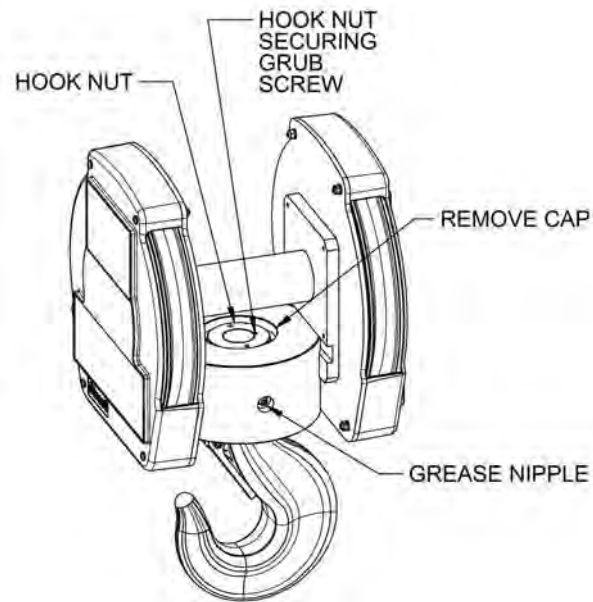

Figure 80 – 4 Fall Bottom Block, Hook Nut, Grubscrew, Grease nipple
- Check the security of the hook nut and it's securing grub screw, for 4 Fall remove cap to inspect see Figure 80. For 2, 6 and 8 Fall rotate the hook up to inspect, see Figure 81.
- Grease the hook thrust bearing as required in the lubrication schedule (see section 5.7.1 & Figure 80).